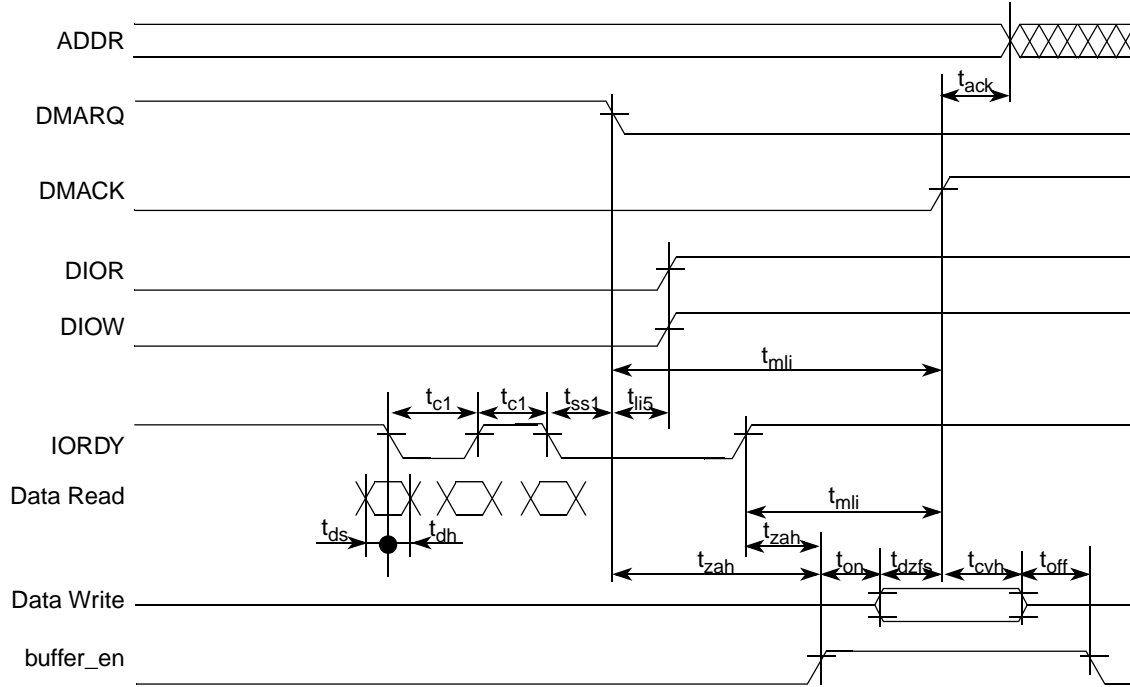

Figure 32. UDMA In Device Terminates Transfer
- Figure 32 gives timing for device terminating UDMA in transfer.